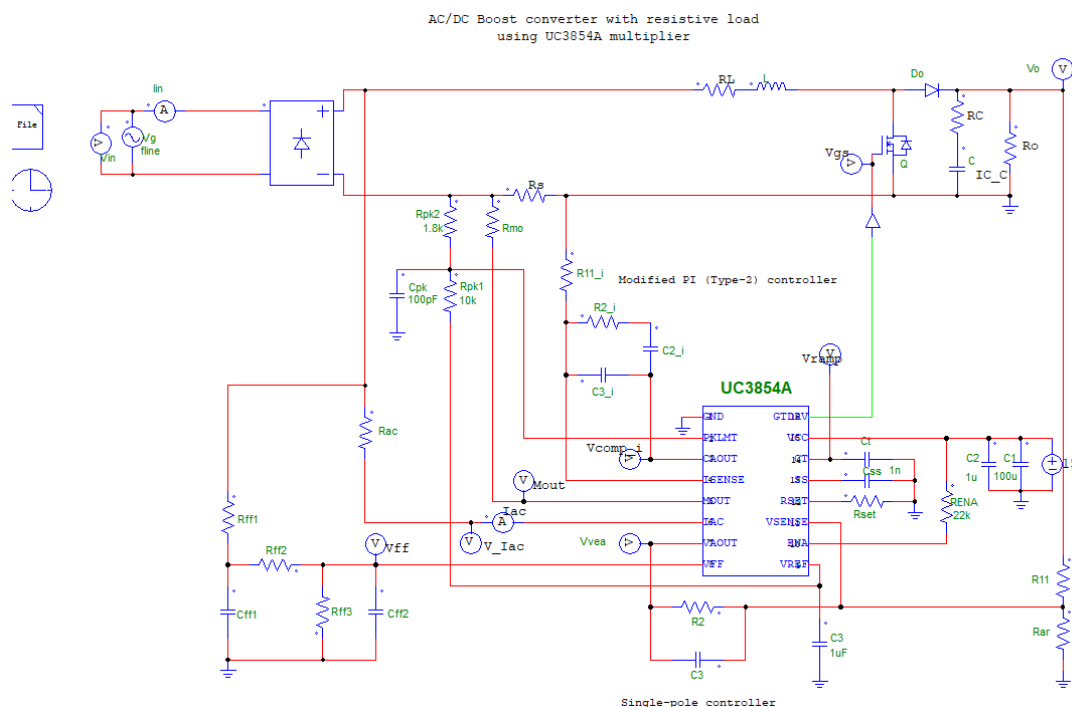
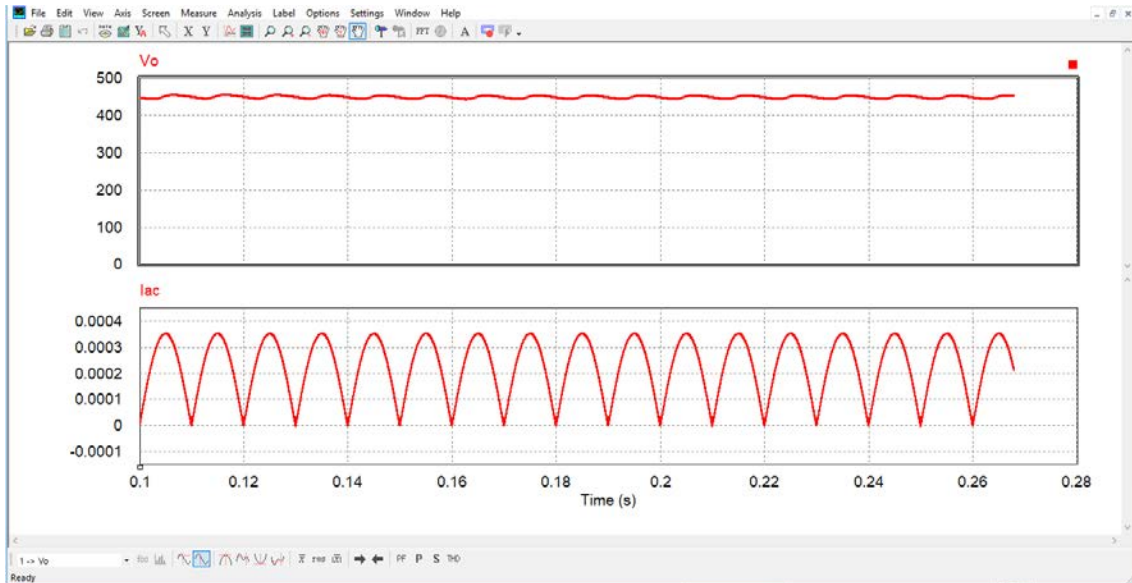

Figure 33: Psim schematic created by SmartCtrl
Figure 34: Traces of the Psim simulation
2. In Psim, the schematic of Figure 33 will appear, if simulation is launched, the waveforms of Figure 34 will appear.
As it can be seen, the schematic of Figure 33 is exactly the objective of this tutorial. In Figure 34, it appears the output voltage and the rectified input current.